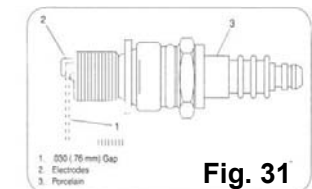

Fig. 31
4. Check electrode gap with a feeler gauge and set gap to 0.030(0.76mm) if necessary. See Figure 31.